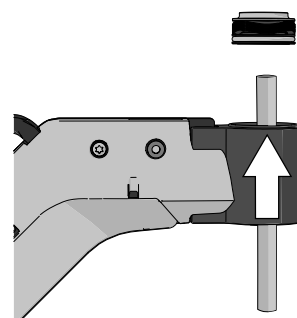

Figure 417. Remove the friction brake.
i This step does only apply if the wheelchair is equipped with a later revision of the friction brake (see Figure 417).
- i** This step does only apply if the wheelchair is equipped with a later revision of the friction brake (see Figure 417).